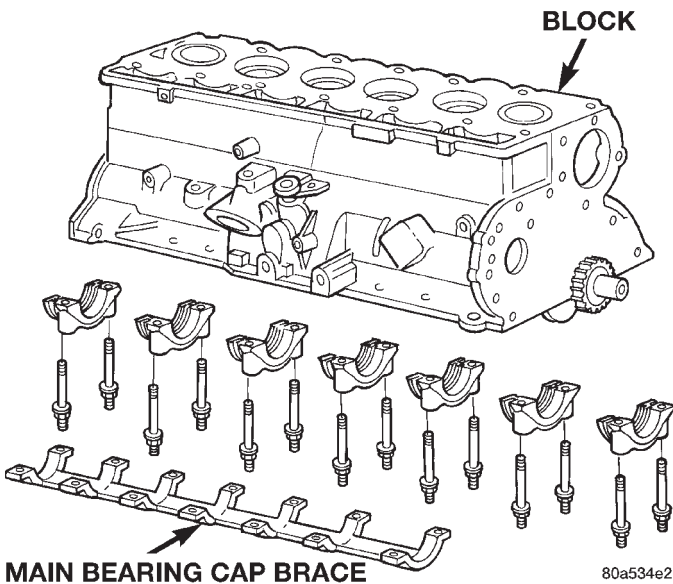

Fig. 49 Main Bearing Caps and Brace.
- (1) Disconnect negative cable from battery.
- (2) Remove the spark plugs.
- (3) Raise the vehicle.
- (4) Remove the oil pan and oil pump.
- (5) Remove main bearing cap brace (Fig. 49).